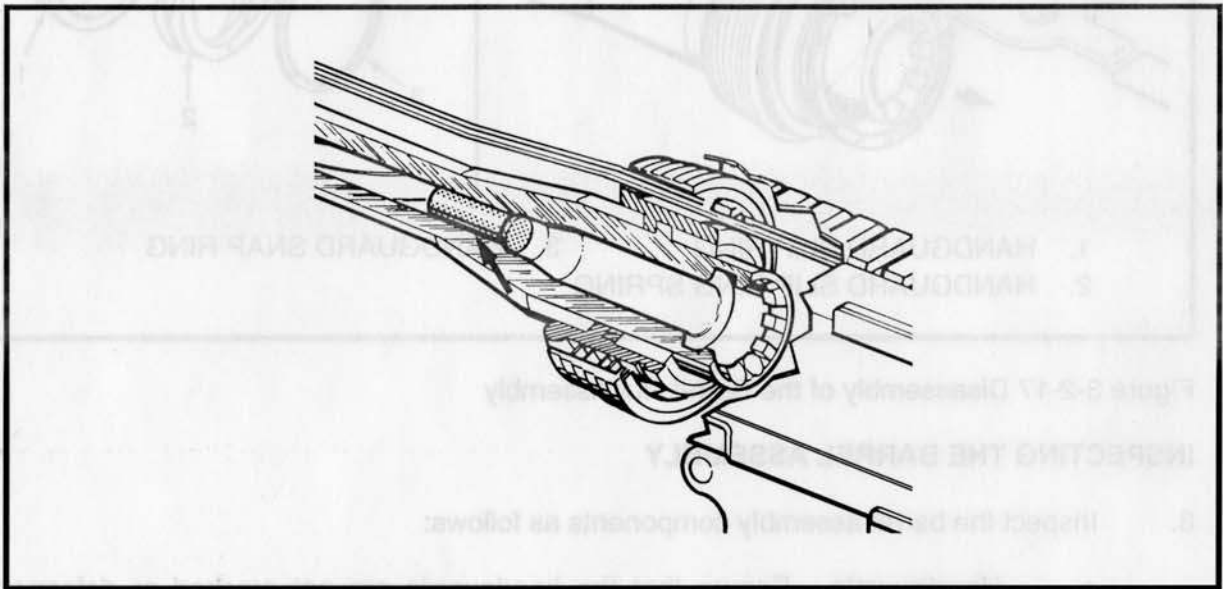

Figure 3-2-18 Inspecting the Chamber
- (1) Security and correct form of the front sight bracket;
- (2) Security and correct form of the barrel indexing pin in the barrel extension;
- (3) Cracks, rust, bulges or pitting in the bore;
- (4) Amount of gilding (coppering) of the rifling, as denoted by the darkness of the lands; and
- (5) Condition of the chamber, determined by using the reflector tool. See Figure 3-2-18.